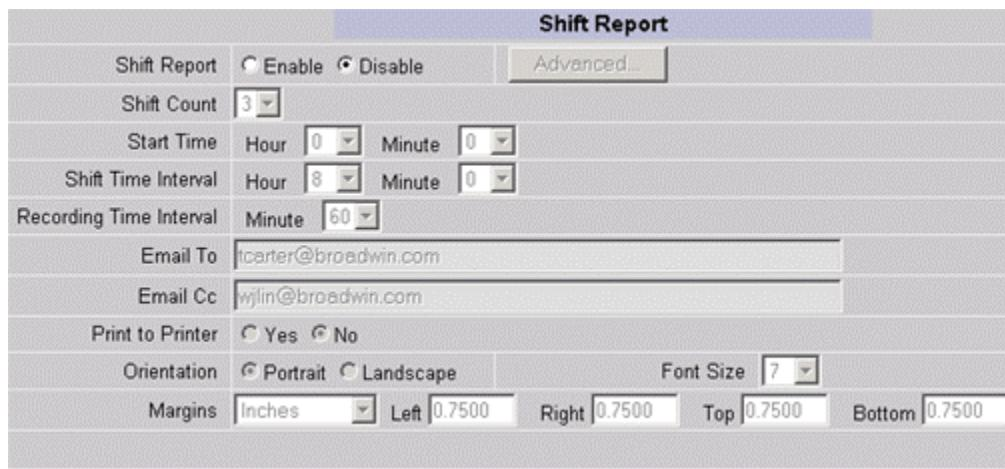

Figure 12.12 - Shift Report configuration
15. **Enable** or **Disable** Shift Report, Daily Report and Monthly report by checking the radio button for each (Figure 12-12).
2. Click the **Tag Property** button listed under Shift Report (Figure 12-12).